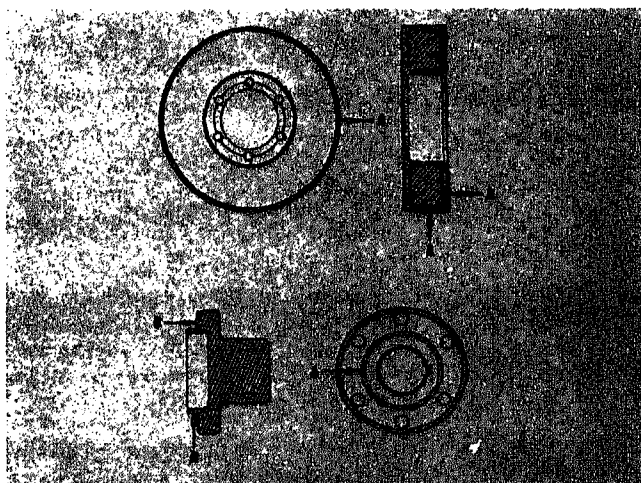

Fig. 14-1-52. Damper and flange eccentricity and wobble
1. Eccentricity of vibration damper mounting flange measured on the outside diameter of the pilot must not exceed 0.004 in. [0.1016 mm] total indicator reading, (A, Fig. 14-1-52).
2. Wobble in the vibration damper mounting flange must not exceed 0.003 in. [0.0762 mm] measured at 2 $\frac{3}{4}$  in. [69.8500 mm] radius (B, Fig. 14-1-52).